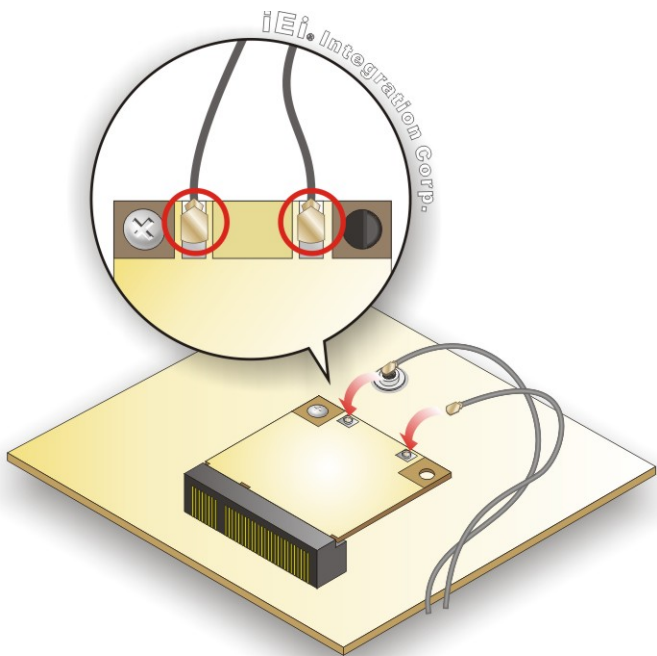

Figure 3-12: Connecting RF Cables
Step 8: Connect the two RF cables to the antenna connectors on the WLAN module (**Figure 3-12**).